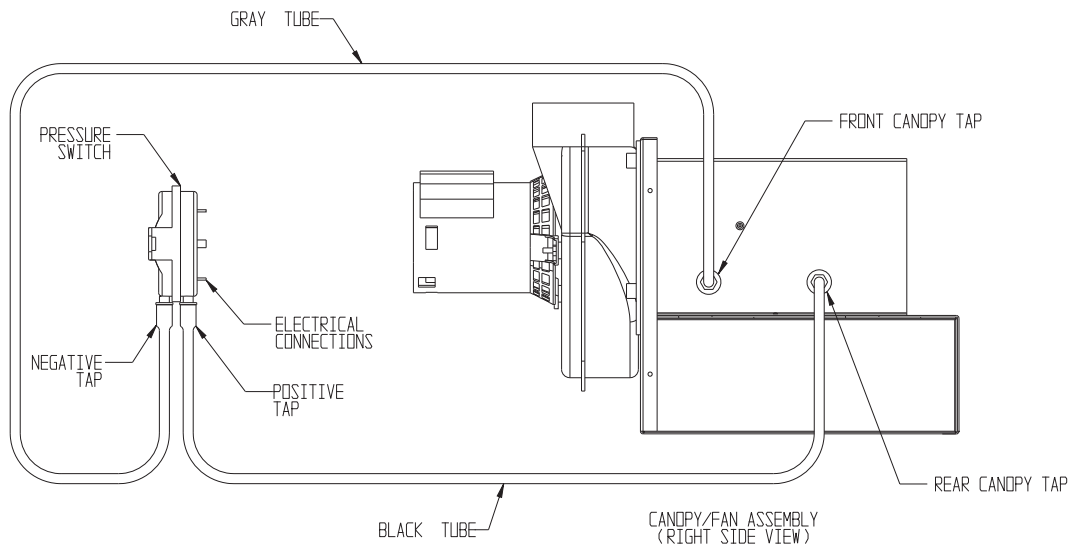

Figure 12.3a: Pressure Switch Connections
1. Pressure Switch – This boiler is equipped with a differential pressure switch which makes when there is adequate flue gas flow through the boiler. This switch measures the pressure drop across an orifice plate inside the flue collector; the higher the flue gas flow through this plate, the higher the pressure drop. The N.O. contacts on the pressure switch make, allowing the boiler to fire, when the pressure drop across the flue collector orifice plate switch exceeds the “make setting” shown in Table 12.2. Once the switch is made, the boiler will fire as long as the pressure at the switch is above the “break setting” shown in Table 12.2. The pressure at both pressure switch tappings is actually below atmospheric (“negative”) with the pressure at the front flue collector tap being the more negative of the two pressures. Figure 12.3a shows the pressure switch connections.